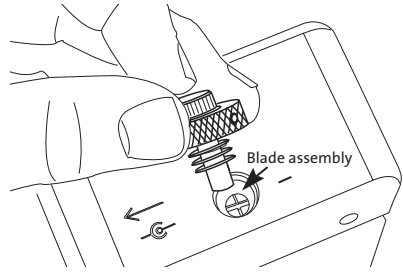

Figure 22
- a. Remove the blade height adjustment assembly to expose the top of the blade assembly (Figure 22).